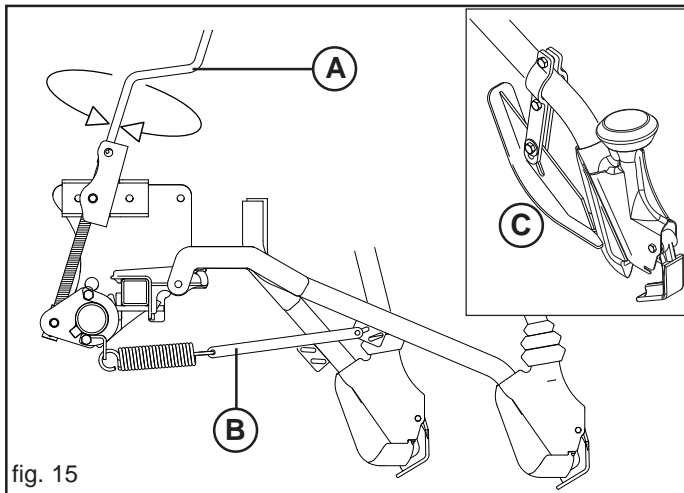

fig. 15
The seeding depth is adjusted simultaneously for all planting devices through a crank (Fig. 15). By rotating it counterclockwise, a stronger pressure can be exerted on the planting devices to the ground by means of the extension springs, thus allowing deeper seeding.
You can further adjust the pressure, separately, changing the position of the tie-rod (B Fig. 15).
**OPTIONAL:** The depth is determined by changing the position of the limiter block (C, Fig. 15), only with hoe coulter (furrow openers). **IMPORTANT: for seeding in moist soils, to a advanced depth to 5 cm, it is advised to remove the limiter.**